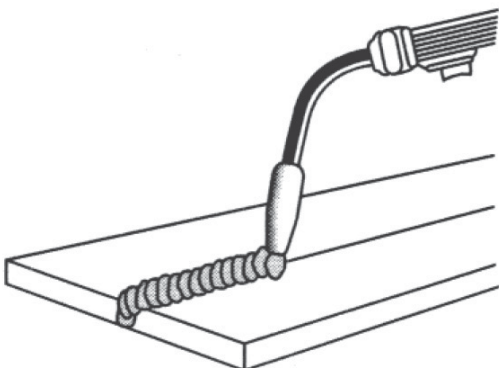

Figure 13. Flat Position
1. The FLAT POSITION (Figure 13) is the easiest of the welding positions and is most commonly used. It is best if you can weld in the flat position if at all possible as good results are easier to achieve.